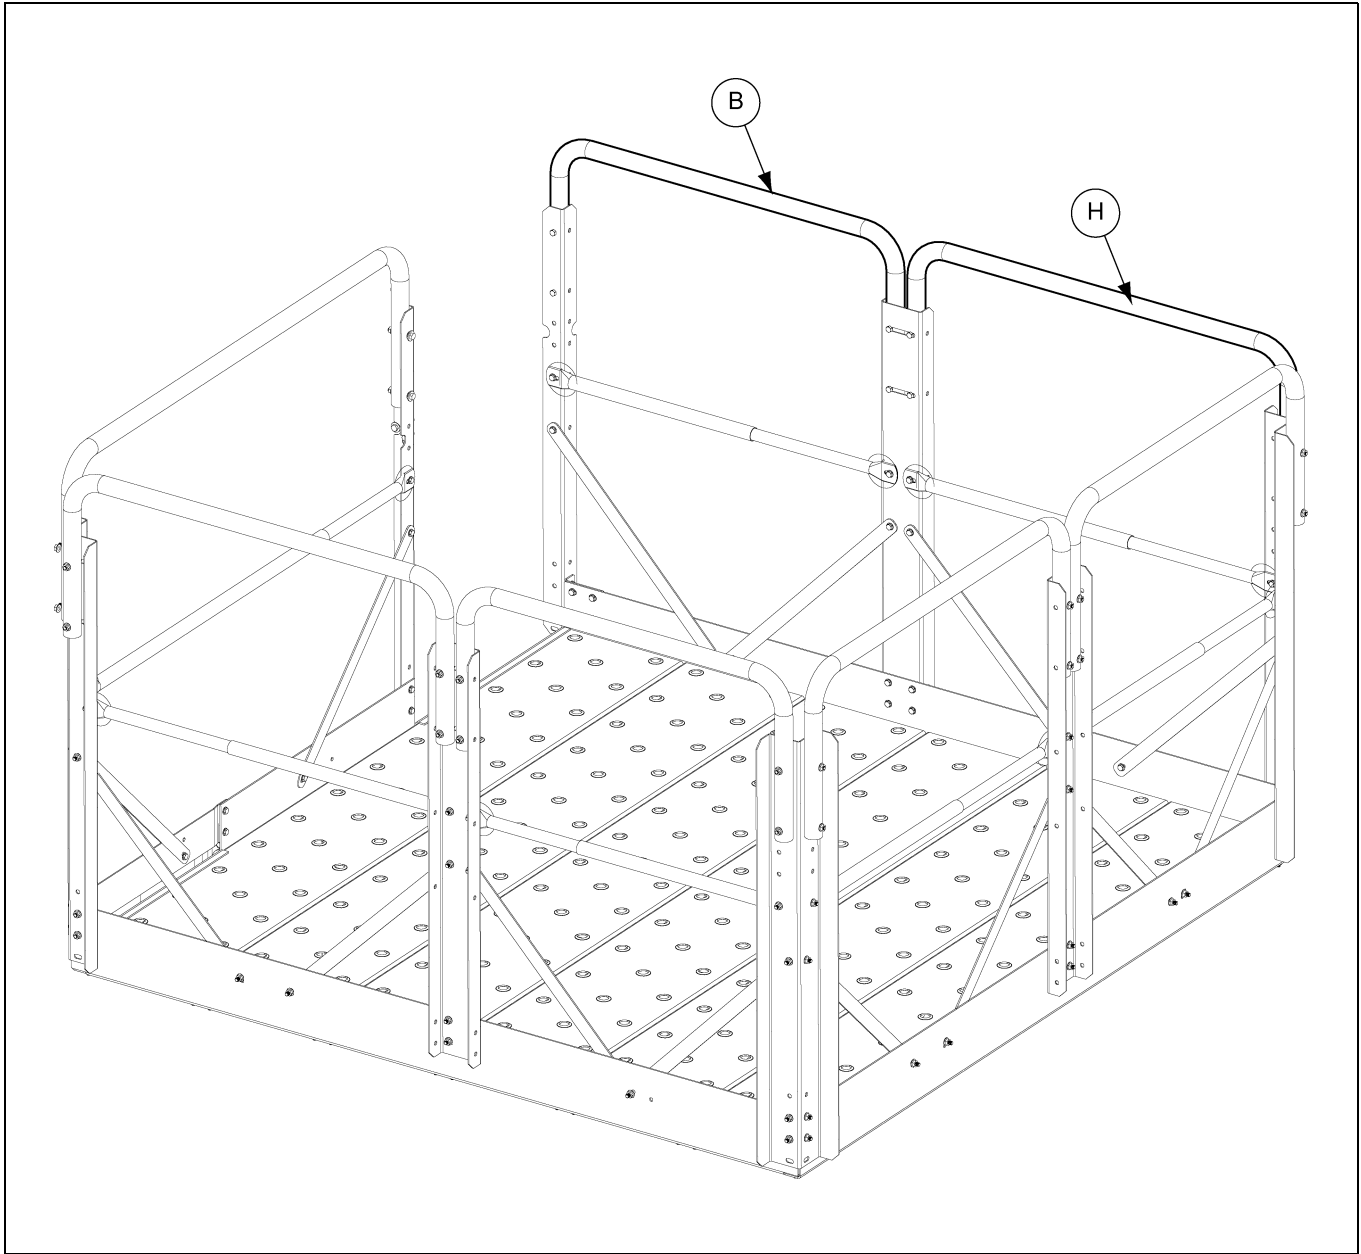

Figure 13N
Attach hatch outside handrail (HP1648HLH) (H) from "W" corner post to platform post and back side handrail (DSP3036H32) (B) from platform post to next safety gate side post (HP1648HP) using 5/16" bolt (S-7877) (J) and 5/16" flange nut (S-3611) (K). *(See Figure 13N.)*